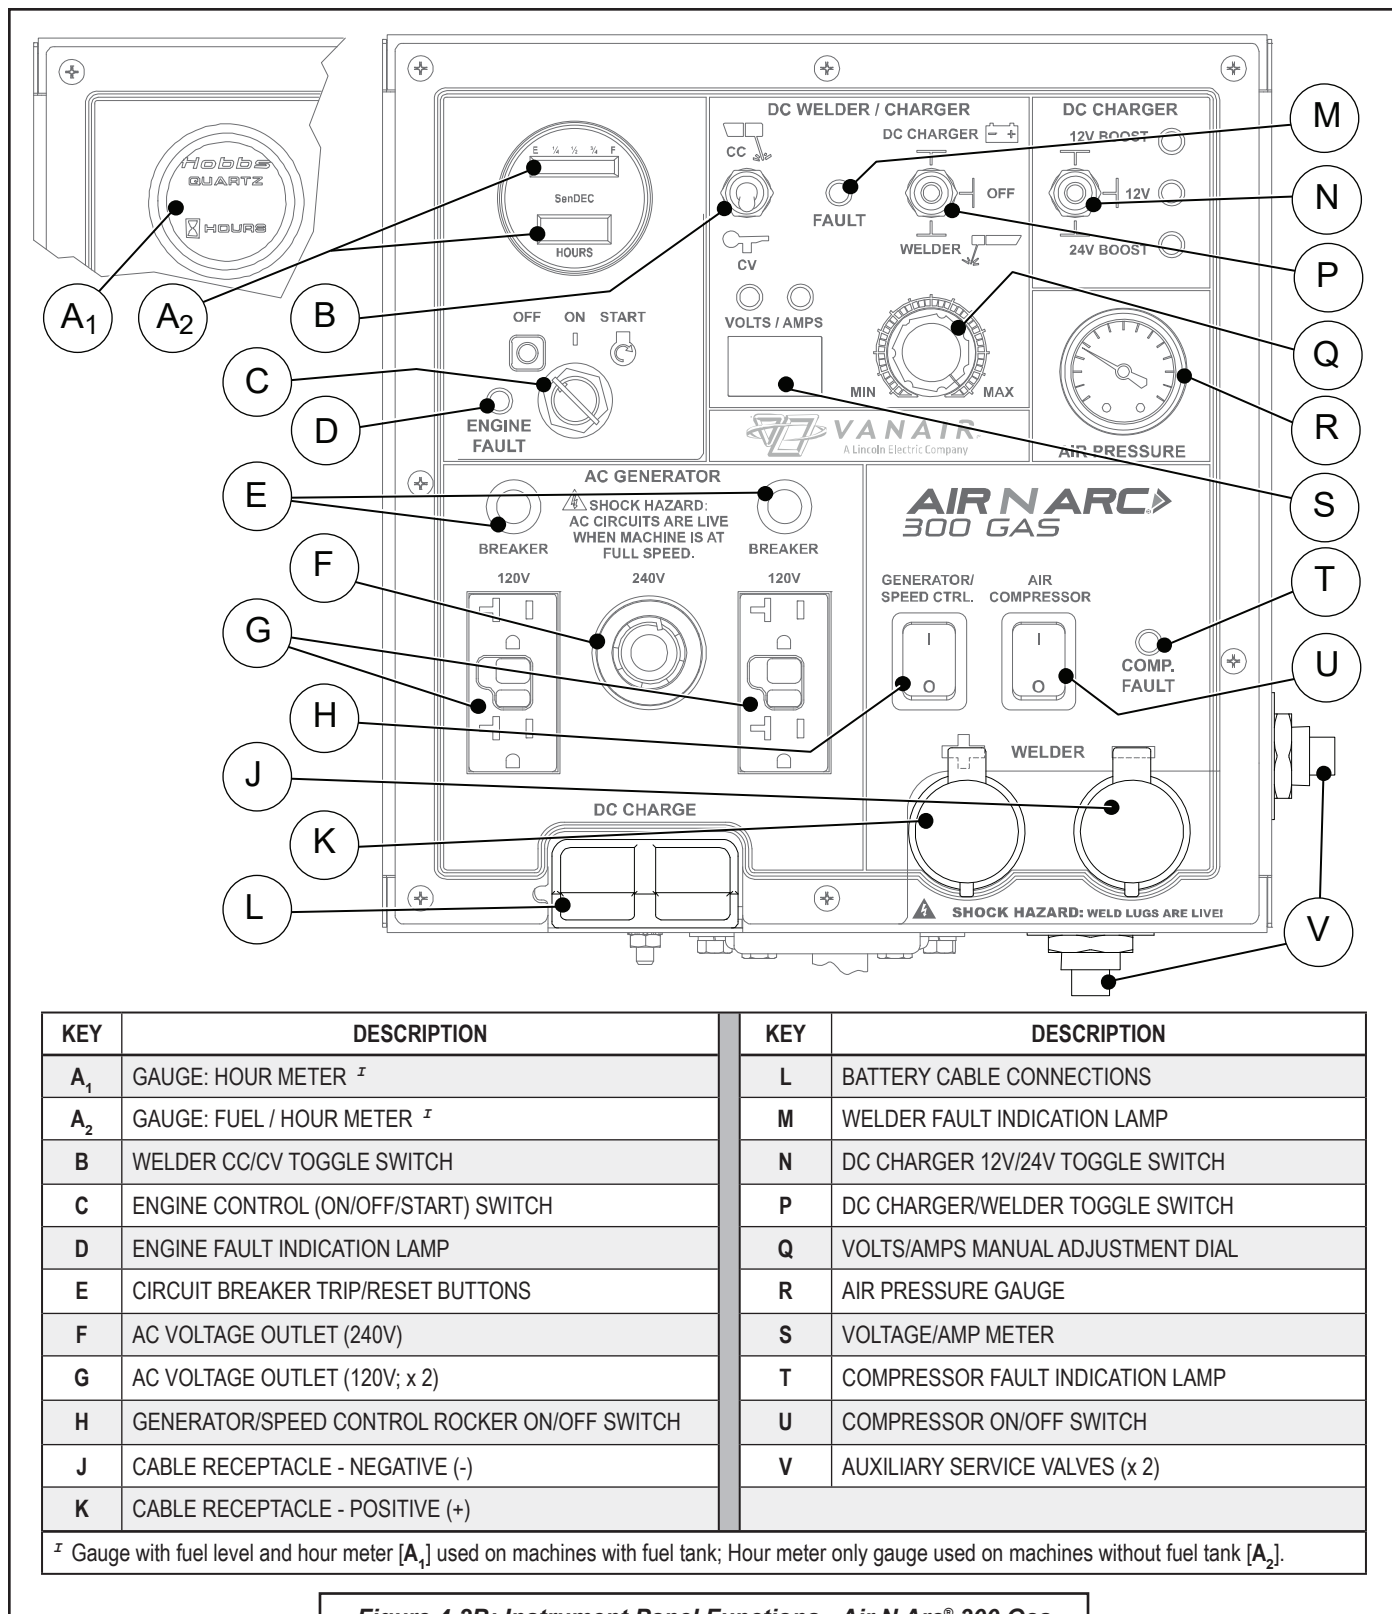

Figure 4-2B: Instrument Panel Functions - Air N Arc® 300 Gas
2. Turn the keyed ignition switch (PowerFlex™ Gas; **Figure 4-2A**; [A]; Air N Arc® 300 Gas; **Figure 4-2B** [C]) to the **START** position; wait 3-5 seconds for the fuel pump to prime the system.